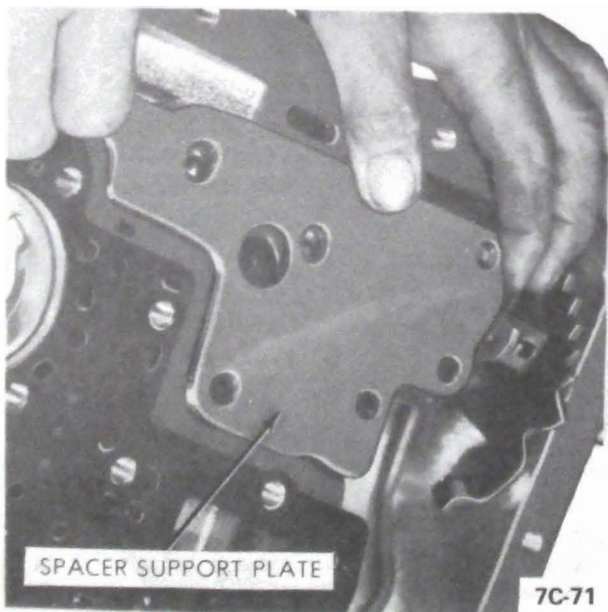

Figure 7C-28
4. Remove spacer support plate bolts. Remove spacer support plate. See Figure 7C-28.